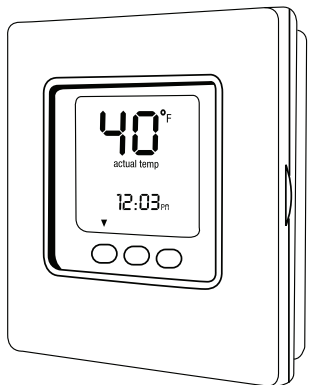

Fig. 16 - Lowest Temperature Setting
1. Set your room thermostat to the lowest temperature setting and set the "MODE" to "OFF." See Fig. 16.